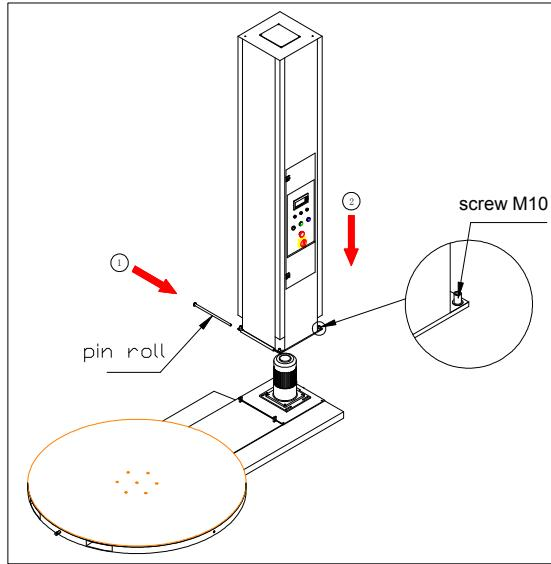

FIG 2-11
3. Connect the upright stanchion to the base cover with a long pin roll, and install the circlip (see FIG 2-11).
4. Then fix the stanchion and the cover onto the base with the four M10 screws supplied by manufacturer (see FIG 2-11).